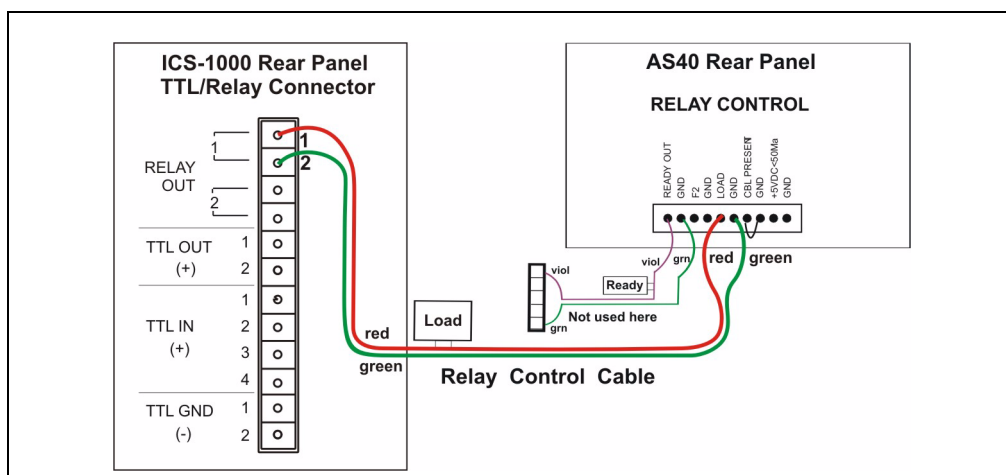

Figure 44. Example AS40 Autosampler Connection
8. Connect the relay control cable's 10-position connector plug to the **RELAY CONTROL** connector on the AS40 rear panel (see Figure 44).
9. Plug the 12-position connector plug into the TTL and relay connector on the ICS-1000 rear panel (see Figure 44). Make sure the red wire connects to position 1 and the green wire connects to position 2.